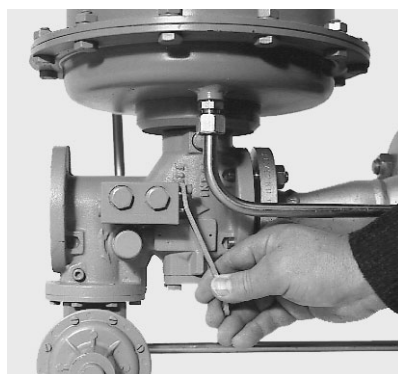

Fig. 4
Resetting the SSV, step 1 (Fig. 4)
- Equalise the pressure by opening the bypass valve (Fig. 4).